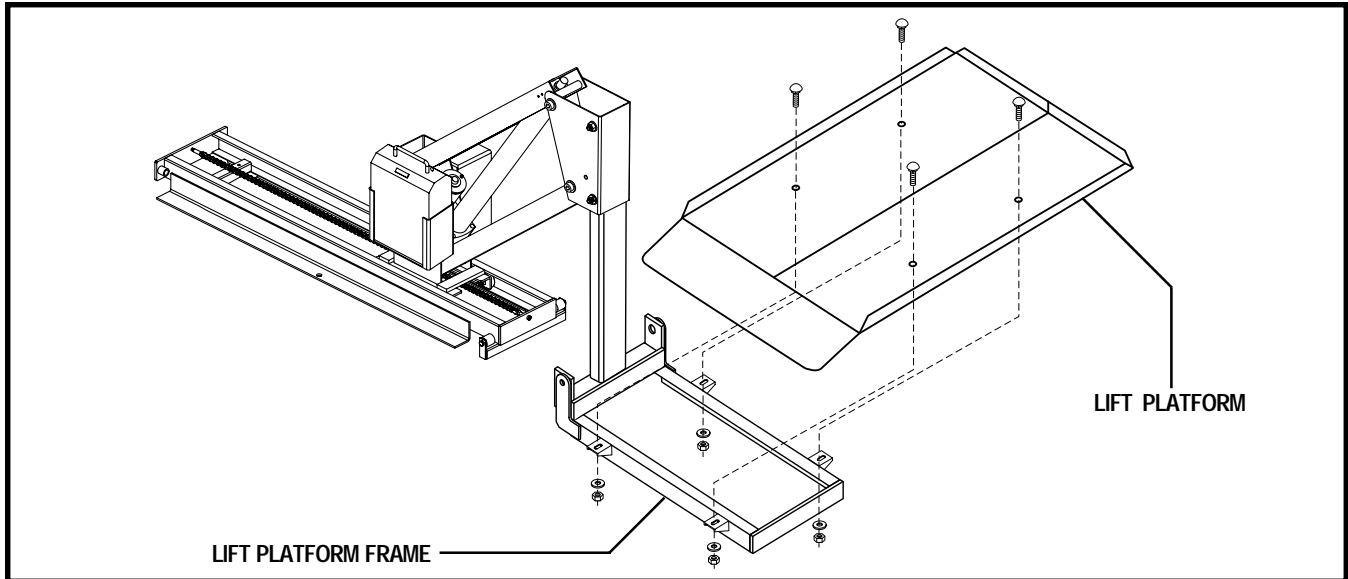

Figure 4. Lift Platform Installation
12. Position the lift platform over the platform frame and align the mounting holes in the lift platform with the mounting tabs on the platform frame. See figure 4.